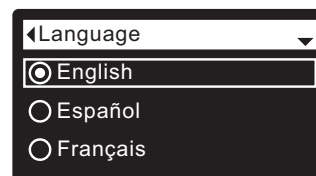

FIG. 59
5. Press the SELECT (O) button to display the Language menu (See Figure 59).
6. If the desired language already has a dot next to it (See Figure 59), go to Step 7. Otherwise, press the DOWN (▼) or UP (▲) buttons to scroll to the desired language, then press SELECT (O) to choose it. The choices are: English, Spanish, French, Italian, German, Dutch, Polish, Russian, Hungarian, Turkish, Lithuanian, Greek, Romanian, Czech, Slovak, Bulgarian, Serbian or Croatian.